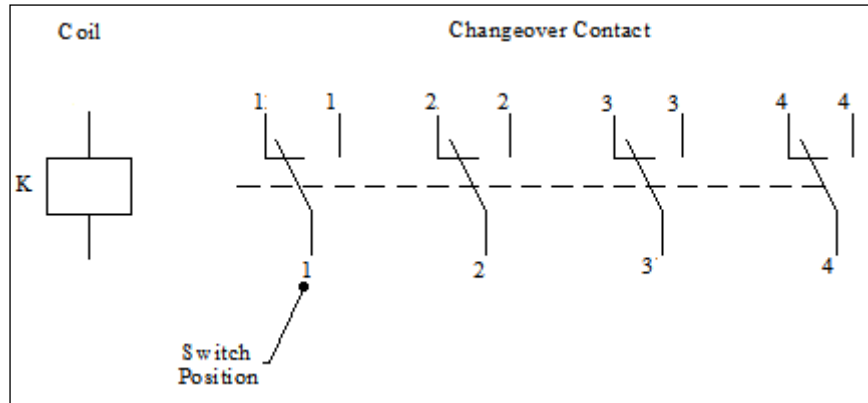

Figure 1.3: Relay with a coil and multiple contactor switches
Relay is an electrical device that contains a coil and a contactor switch. Relay also can consist of a coil and multiple contactors. **Figure 1.3** shows a coil (K) with 4 contactor switches. If the coil is activated, the Changeover Contact will change its state. A NO switch will change its state from ON to OFF state.